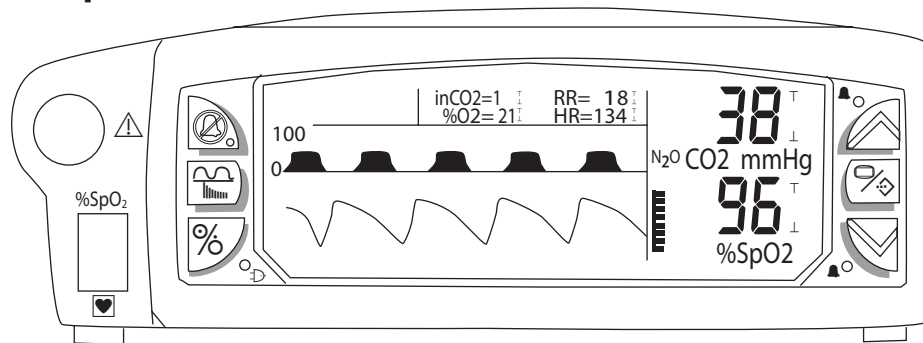
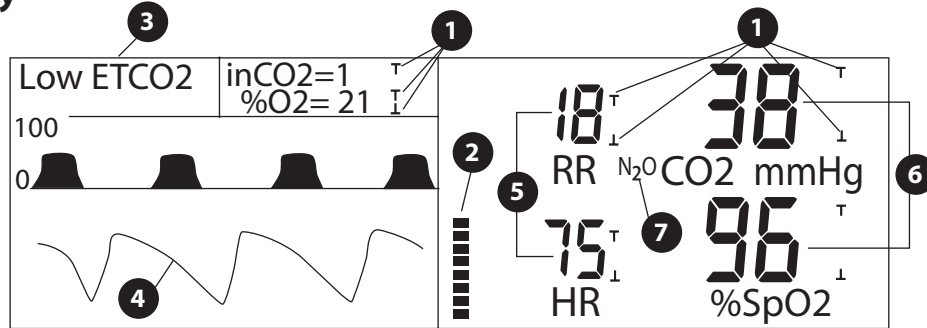

Figure 2.1: Expanded Waveform Mode
Figure 2.3: VFD Display (Normal Mode)
One or two waveforms are displayed here in either expanded wave mode [fig 2.1] or normal mode [fig 2.3]. A trend graph or a menu can be displayed in place of waveforms. Trends and menus always expand this waveform area, relocating the parameters as described below.
Respiration Rate (RR) and Pulse Rate (HR) are shown as medium-size digits in this area in NORMAL display mode. Normal display mode can exist only if an oximeter is installed. In EXPANDED waveform mode, these parameters become small digits and move next to inCO₂ and %O₂ above the waveform area. [fig. 2.1].